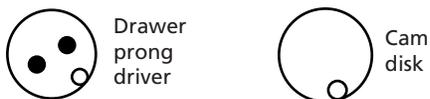

Fig. 2a - Installation of drawer prong driver and cam disk
Step 4 - Place the lock face side down on a flat surface. Install the drawer (W) prong driver first, then place the cam disk over the top in the orientation indicated in *Fig. 2a*.